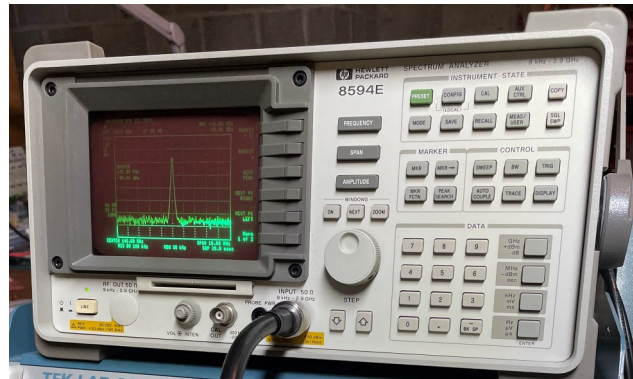

Figure 2 – Spectrum Analyzer
Like the signal generator, a calibrated spectrum analyzer (see Figure 2) provides extreme accuracy in resolution of received signals. It is accurate both in terms of the centre frequency being received, and in the signal level of all signals within the received bandwidth. A spectrum analyzer (SA) is an extremely useful piece of test gear that I find nearly indispensable in my shack [7].